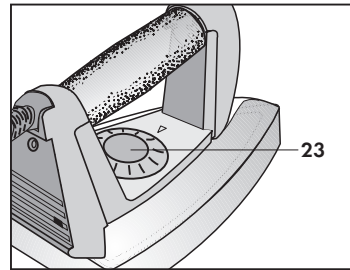

Fig. 21
- Rotate the iron's temperature selector knob (23) to the desired temperature notch in order to adapt the temperature of the iron sole plate to the type of fabric you are going to iron. (Fig. 21).
- Proceed as per normal (as you would do with dry ironing) and release steam when necessary by pressing the button (22) on the handle.